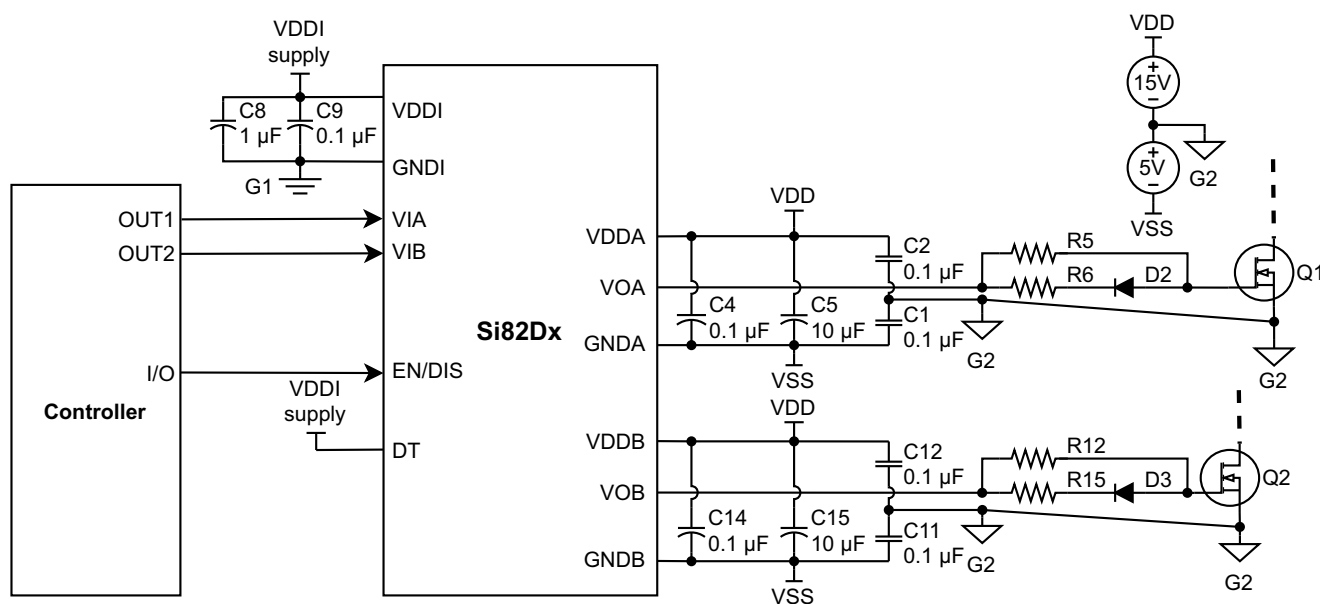

Figure 19. Dual Low-Side Driver Application Circuit
Figure 19. "Dual Low-Side Driver Application Circuit," below depicts the circuit for driving dual low-side FETs. When the dead time pin (DT) is tied to the logic input supply (VDDI), the Si82Dx device operates as a dual gate driver without overlap protection or dead time insertion. In this dual driver mode, the Si82Dx device can be used for high-side/low-side, dual high-side, dual low-side, or any circuit topology. However, the controller is responsible for providing overlap protection and dead time insertion. In the dual low-side circuit topology depicted below, the +15 V and -5 V sources are shared by Gate Drivers A and B to generate bipolar V_{GS} outputs. For a dual high-side application, Driver A and Driver B cannot share the same power supply and will require the individual isolated power supplies, even if the V_{GS} output is unipolar.